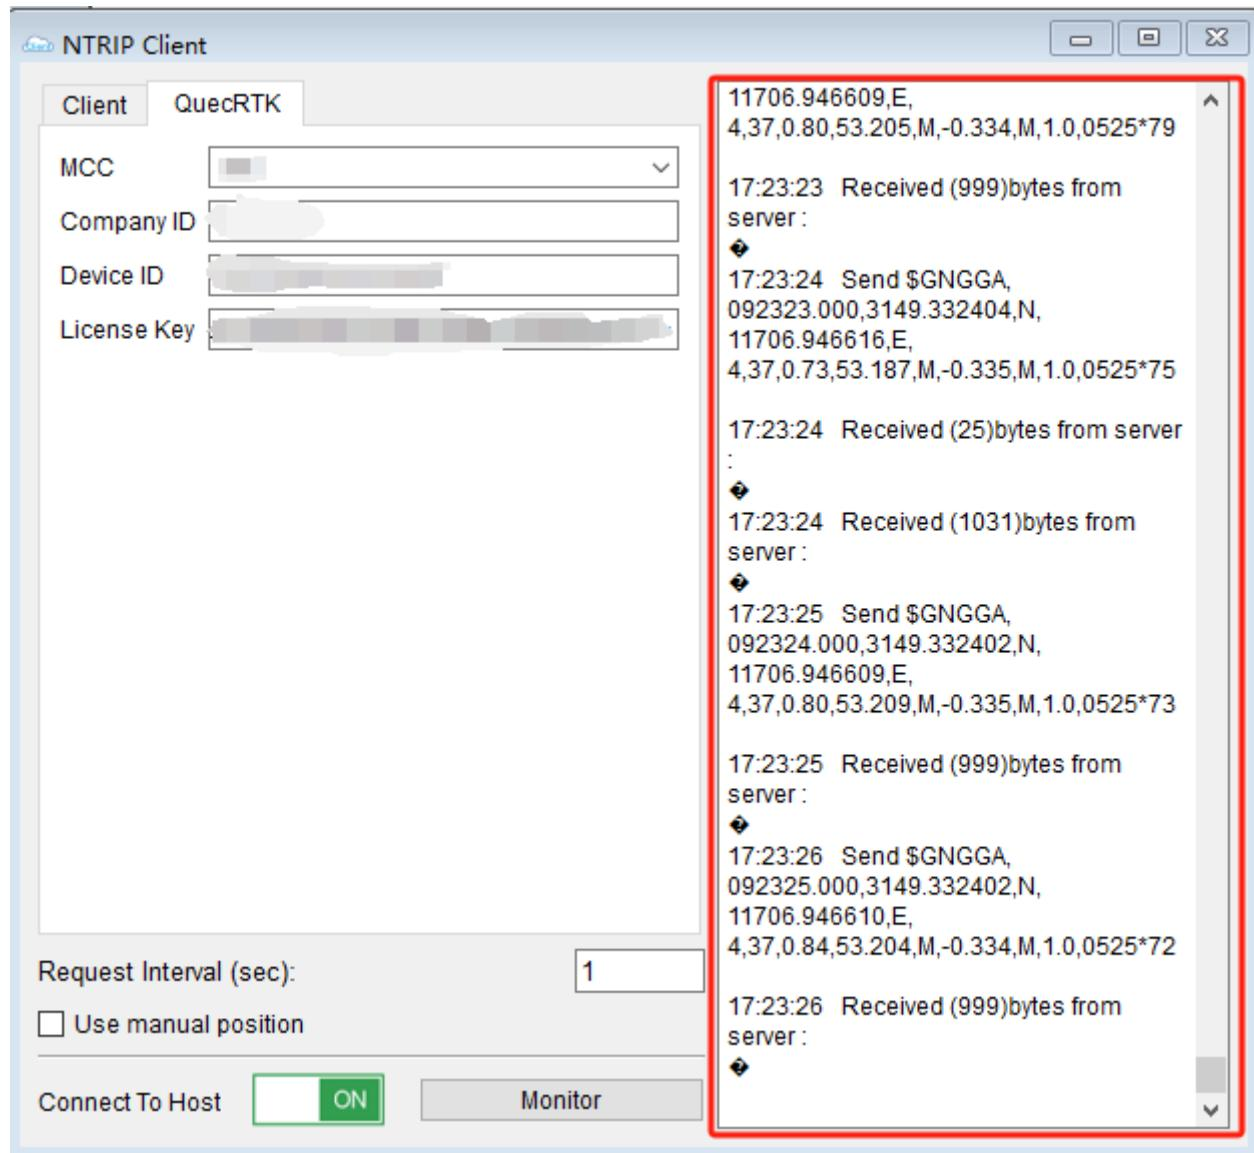

Figure 29: QuecRTK Client
Step 4: Switch ON the “**Connect to Host**”. If the configuration is correct, you can see the messages sent to the RTK server and differential data received in the box on the right as shown in Figure 29: QuecRTK Client.